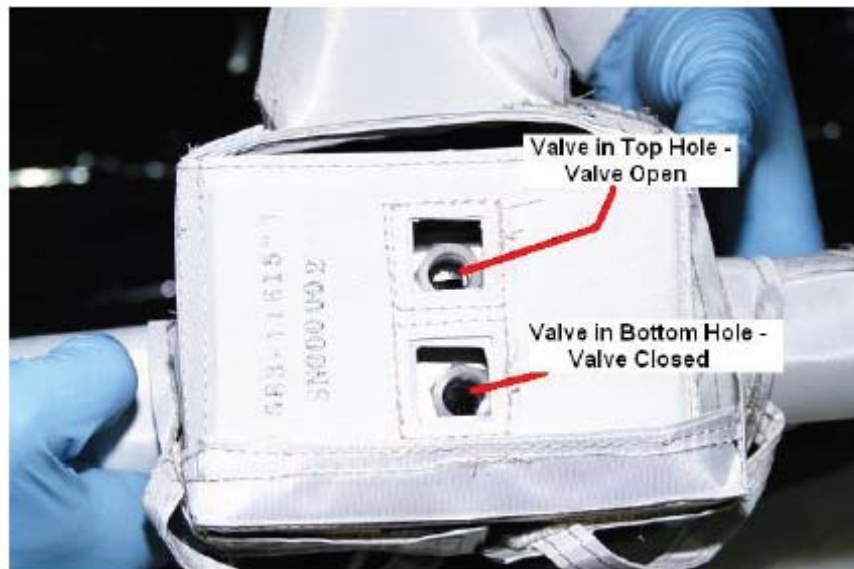

Figure 1.- NPV Valve Indicator.
2. Verify NPV Valve is in open position (see figure 1)